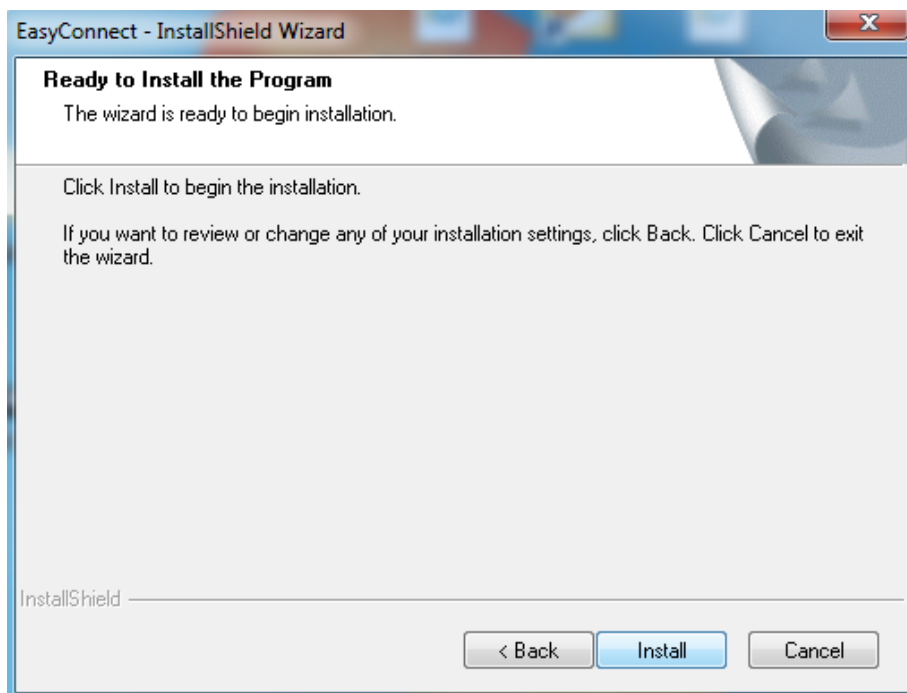

Figure E-8: Ready to Install the Program
6. The 'Ready to Install the Program' window displays as shown in Figure E-8. Click **Install** to start the installation.